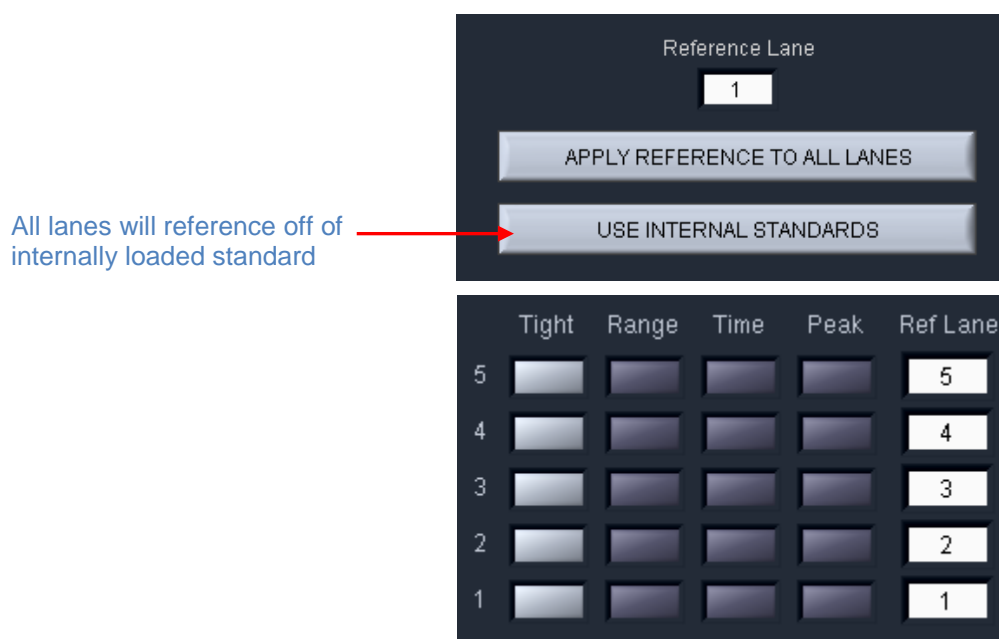

Figure 6.2. The correct configuration for a protocol using internal standards.
3. **Figure 6.2** shows the correct assignment of marker lanes for internal standard runs.